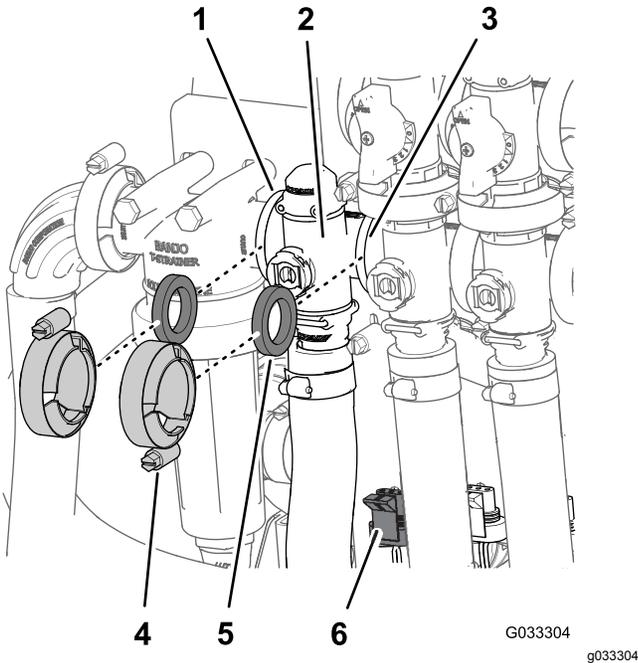

Figure 62
1. Remove the clamps and gaskets that secure the manifold for the rate-control valve (Figure 62).